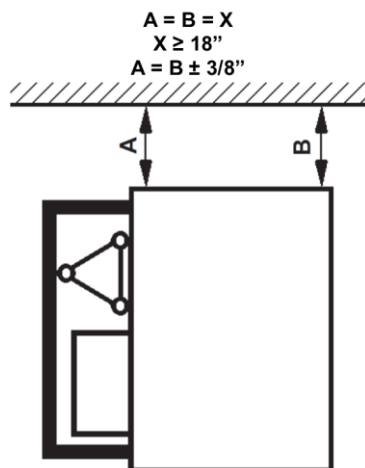
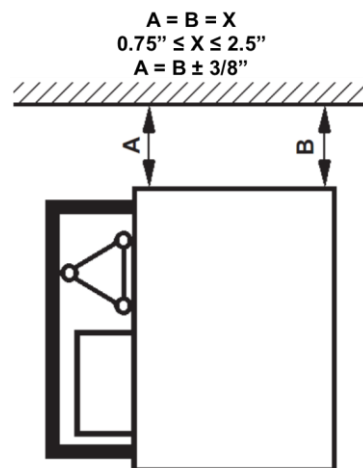

Figure 6.5
Figure 6.6
- **this distance must not be less than 18 in. if installing the unit as a Transport Platform as indicated in ANSI A92.10 as shown in figure 6.5 (if using landing doors for a transport platform supplied by BETAMAX set the unit 24 inches from the building for the door to function properly) or if installing the unit as a Material Hoist is not greater than 2.5 in. as shown in figure 6.6 in order to ensure the loading unit passes through with no difficulty and no risk of collision;**